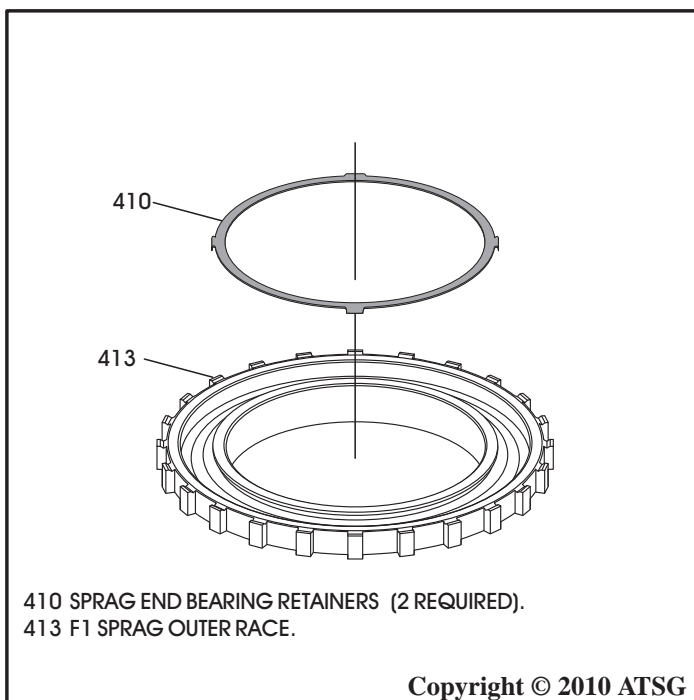

Figure 109
4. Install one end bearing retainer on the **back** side of the sprag outer race, as shown in Figure 109.